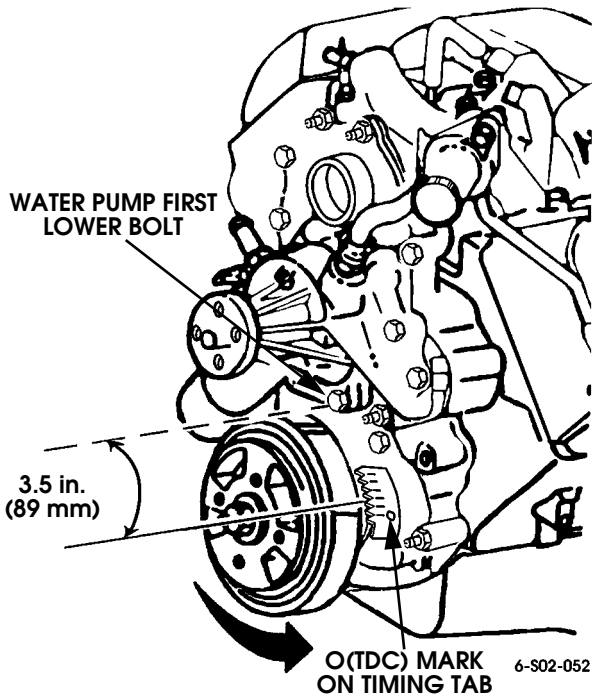

Figure 2-205: Crankshaft Index Position for Rocker Arm Installation
- b. Rotate crankshaft counterclockwise, and align mark on torsional damper with "O" mark on front cover timing tab (Figure 2-205).